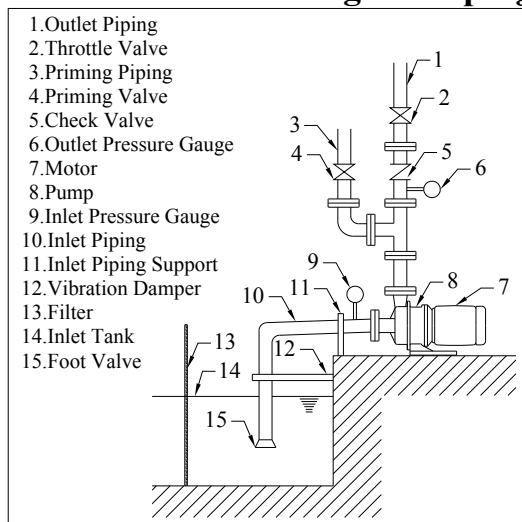
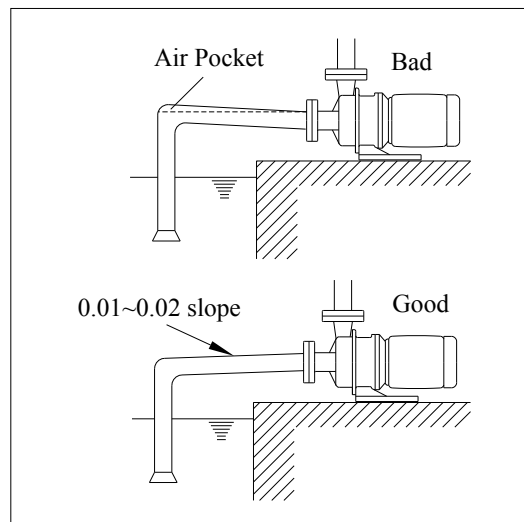

Fig. 4.1
Fig. 4.2
General requirements	<ol style="list-style-type: none"> (1) Suction condition must satisfy $NPSHa > NPSHr + 0.5 \text{ m}$. (2) Minimize suction piping loss by using straight and short piping. (3) The piping should be supported (see Fig. 4.1). The pump should not be used for piping support. (4) Effects of temperature changes should be factored into the support structure design to prevent thermal stress buildup. (5) Suction piping and connectors should be hermetically sealed to prevent drawing in air during operation. (6) The suction piping should not be allowed to collect air. There should be a 0.01~0.02 upward slope towards the pump (see Fig. 4.2). (7) There should not be any elbows within 5D (5 times diameter) distance from the pump opening. The elbow closest to the pump suction should be a long radial elbow.
Foot valve	Install a foot valve if negative suction or upward suction is used (see Fig. 4.1).